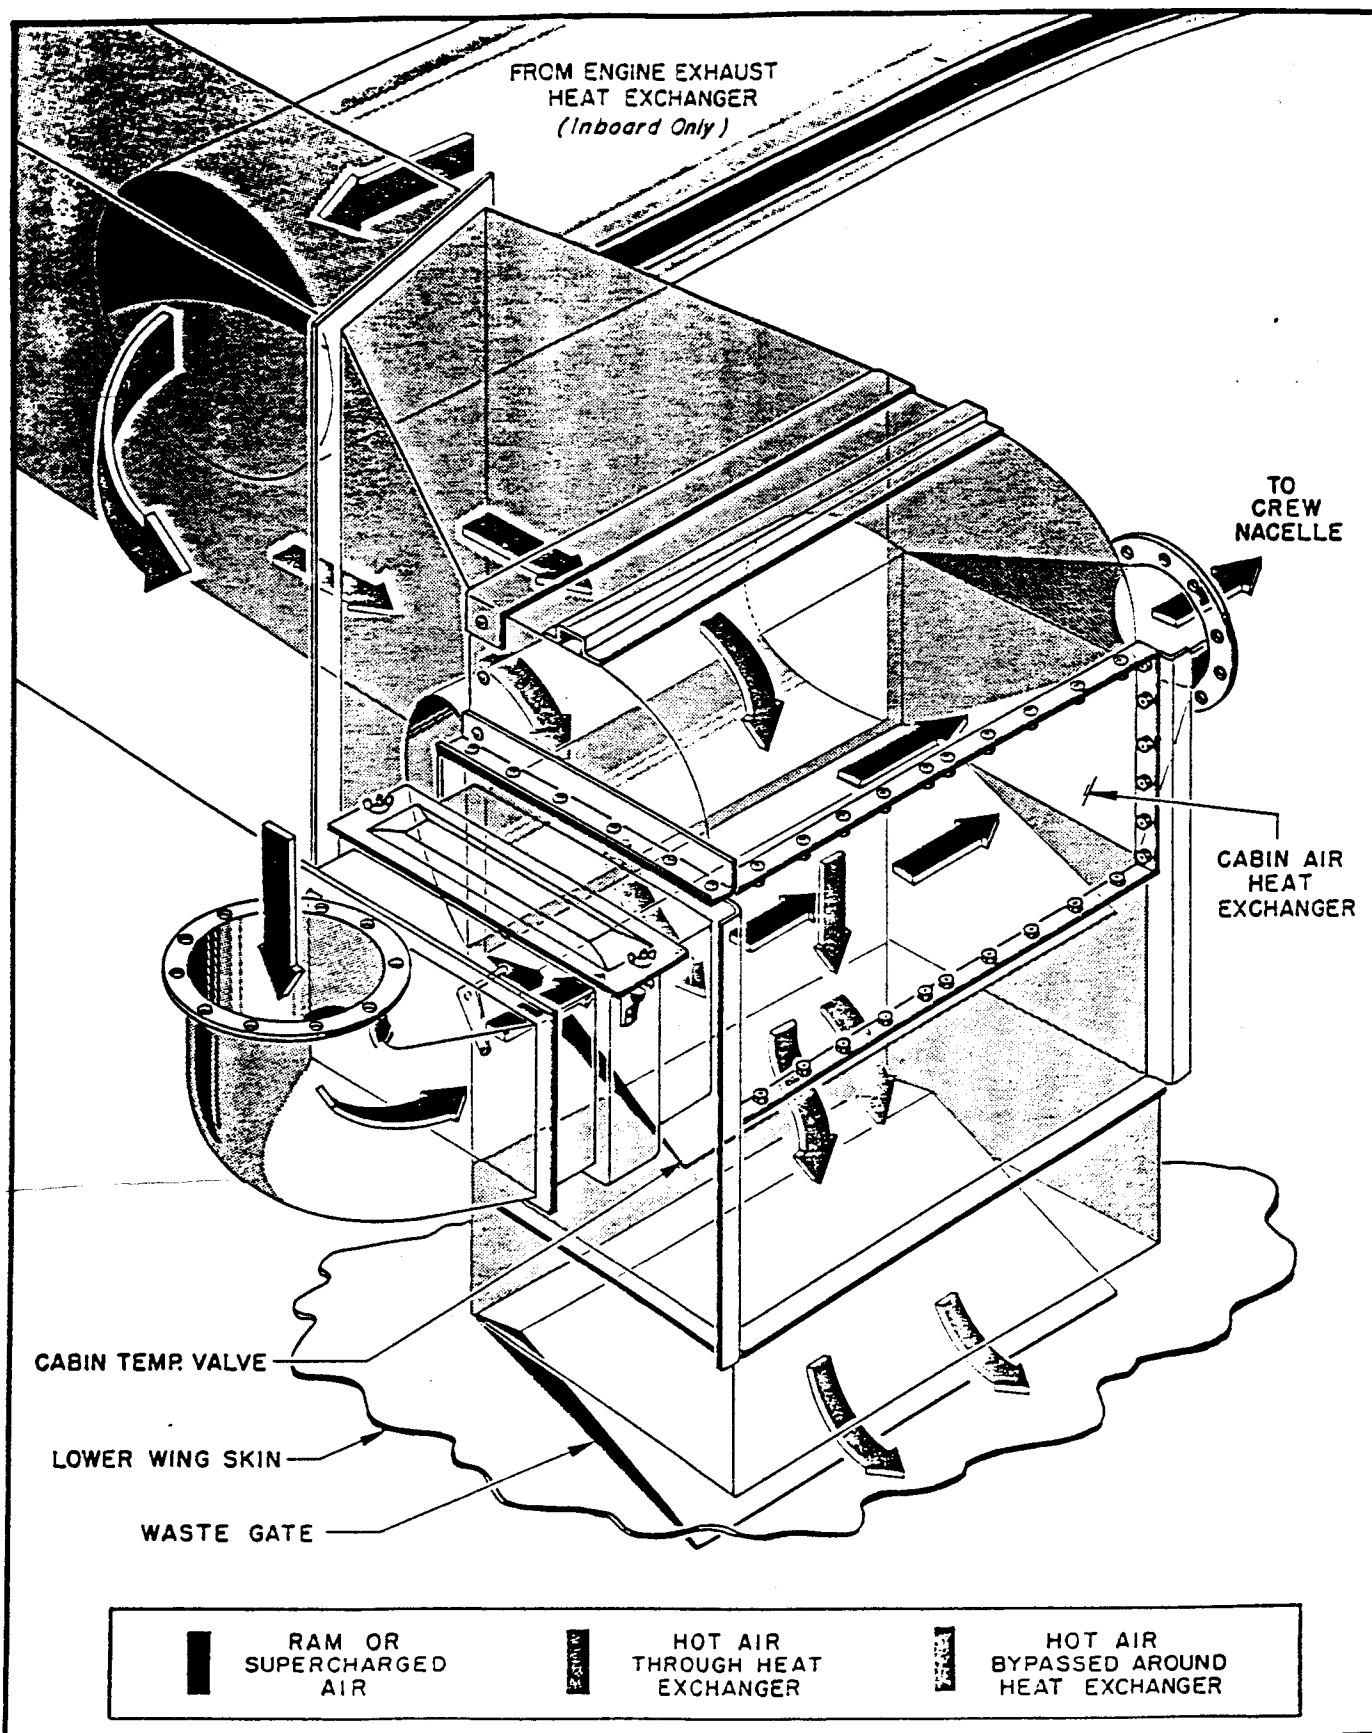

Figure 35. Cabin Heat Exchanger
(4) CABIN HEATER ASSEMBLY. (See figure 35.)